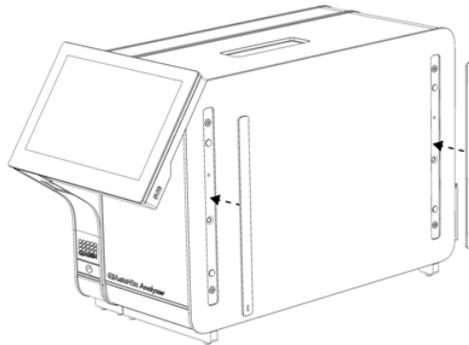

Figure 7. Reattaching the protective covers.
4. Reattach the protective covers on the side of the Analytical Module (Figure 7 below).